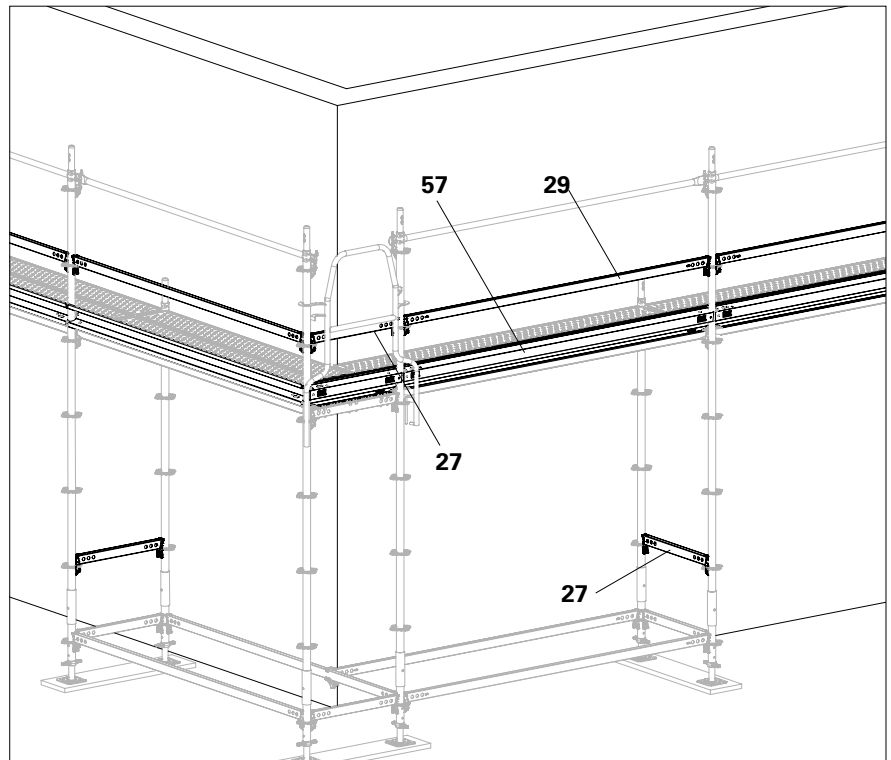

Fig. B6.07
5. Complete the lateral protection with a horizontal ledger as an intermediate guardrail (29) and Toe Boards UPY (57).
6. Fit a Horizontal Ledger UH-2 (27) onto the corner frame column at a height of 50 cm. (Required from a structural point of view).
8. Fit additional horizontal ledgers (27) in the base level at a height of 50 cm, depending on the variant at hand. See Section Tie pattern. Mark the horizontal ledgers as obstacles if the base level decks are not removed.
- The external corner is now complete. (Fig. B6.07)